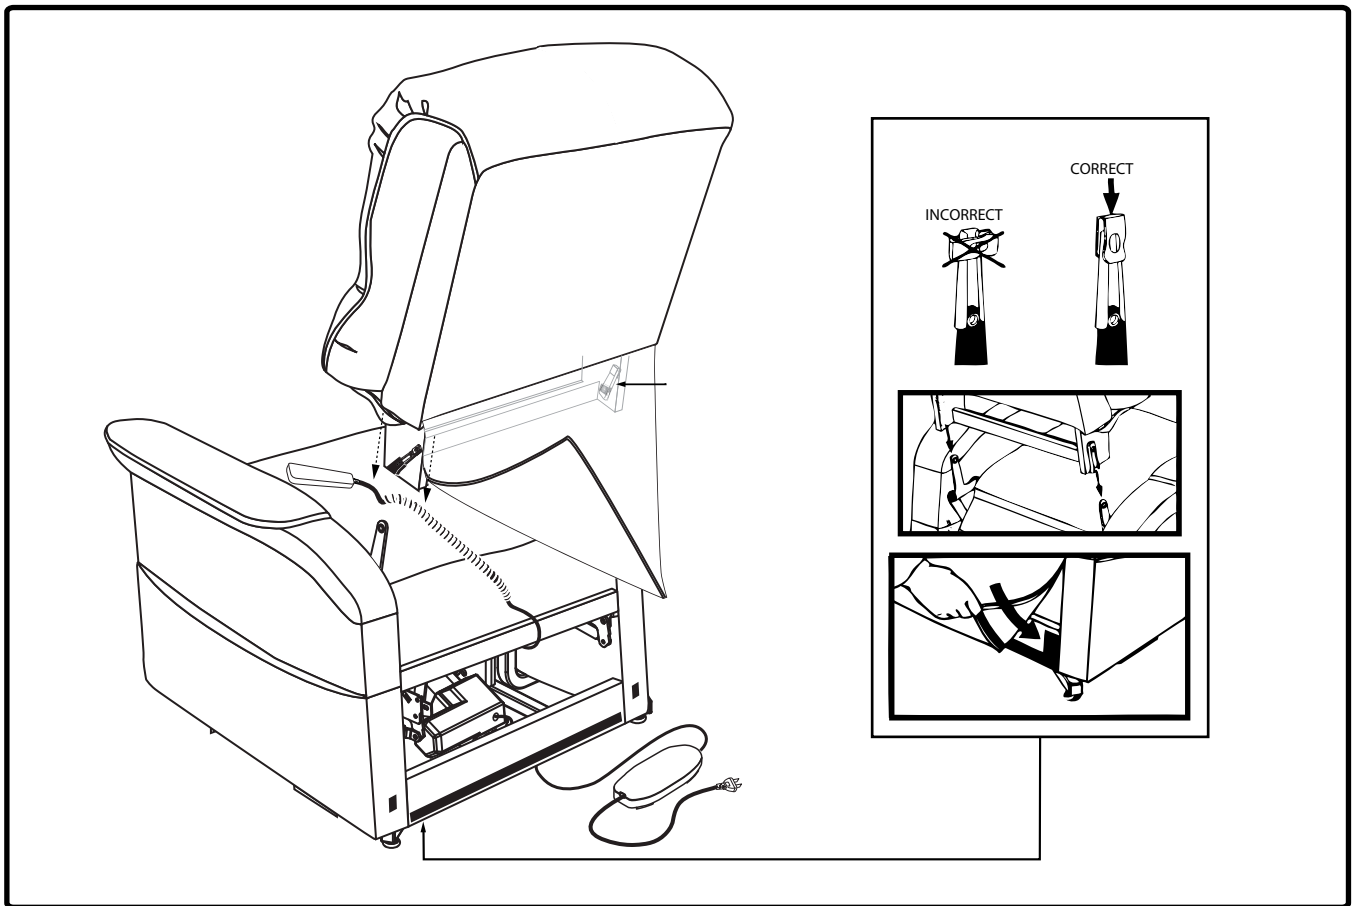

Figure S.2 Chair Assembly
2. Adjust the leg levers if necessary as shown in figure S.2
3. Install (2) AA Alkaline Batteries into the transformer battery compartment. (Batteries not included)